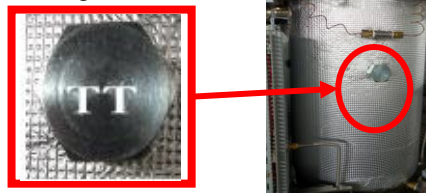

Fig. 1
- 4.14 The sterilizer is equipped with a temperature test connector (for temperature test), and is marked with "TT" symbol (see **Fig.1**), which is sealed with a cap.